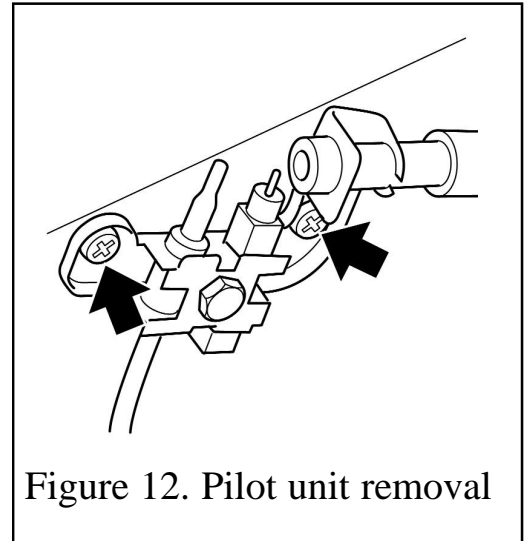

Figure 12. Pilot unit removal
6. Remove the two screws securing the pilot unit (See figure 12).